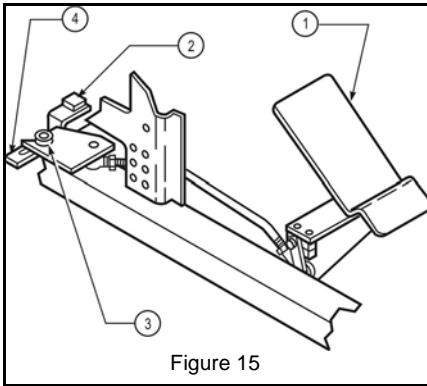

Figure 15
2. To adjust the creep of the drive wheels, loosen the fastener attaching the ball bearing (3, Figure 15) to the control arm (4, Figure 15), and move and secure the bearing within the slot to achieve
The traction pedal (1, Figure 15) is equipped with a safety switch (2, Figure 15) and a neutral centering device. The switch prevents the engine from starting when the pedal is positioned in reverse or forward. The centering device locates neutral positioning of the pump.
- Once the traction pedal has been adjusted, the safety switch (2, Figure 15) may have to be re-adjusted by moving the switch in the range of the slot provided in the switch bracket. Adjust the switch so that the engine cannot be started unless the pedal is in the neutral position.